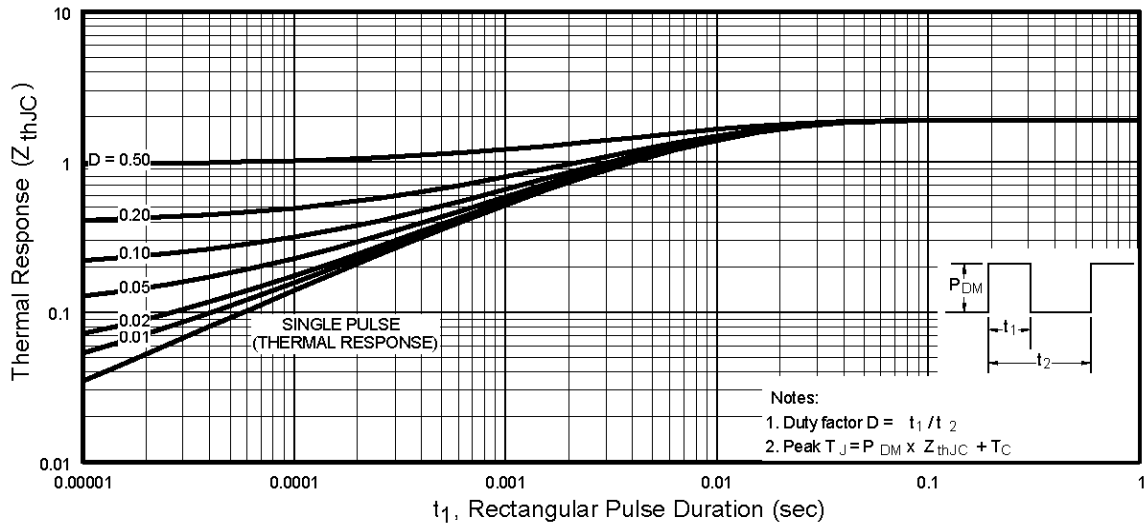

Fig 11. Maximum Effective Transient Thermal Impedance, Junction-to-Case
- ① Repetitive rating; pulse width limited by max. junction temperature. (See fig. 11)
- ② Starting $T_J = 25^\circ\text{C}$, $L = 3.7mH$